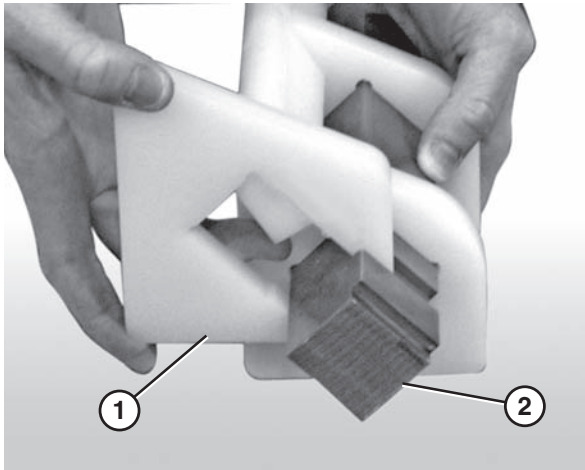

Figure 85
3. Attach the nose bar tracking pucks (Figure 85, item 1) to the nose bar drive post (Figure 85, item 2).